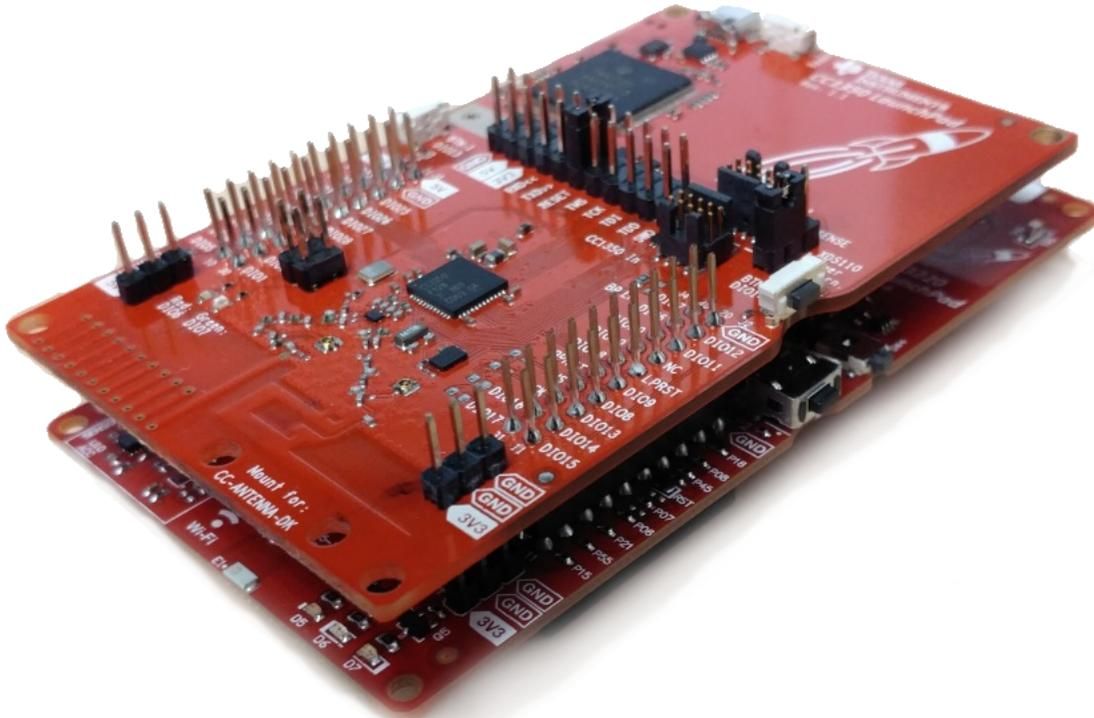

图 27. Stacked CC1350 and CC3220SF LaunchPad™ Development Kits
- Stack both LaunchPad development kits on top of each other as shown in 图 27.